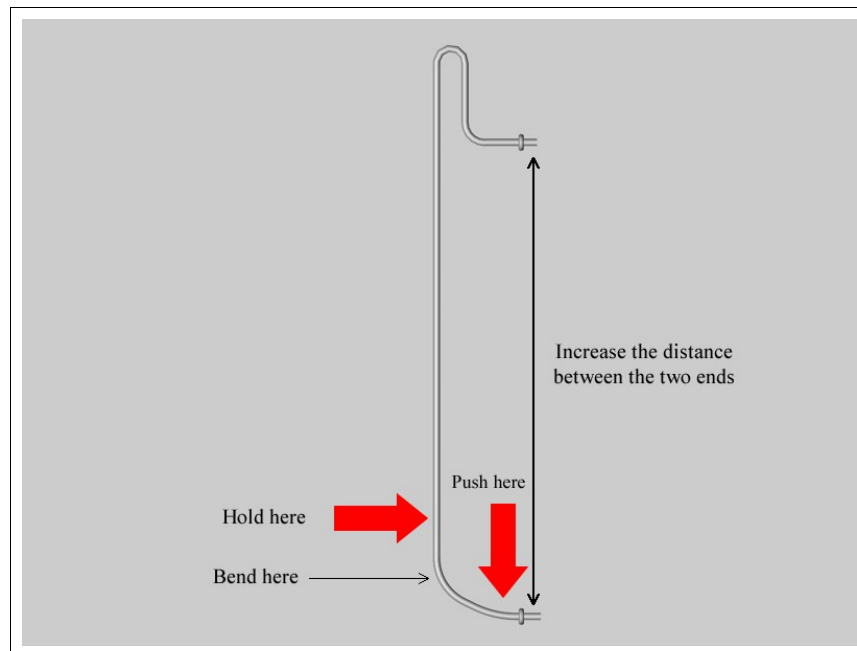

Figure 5-1: Adjusting the rod
3. Once the wire is off, bend the supporting rod outward slightly as shown in figure 5-1 below. The red arrows show the placement and direction of force to be applied. This increases the distance between the two ends of the rod. The rod should not be bent too much.